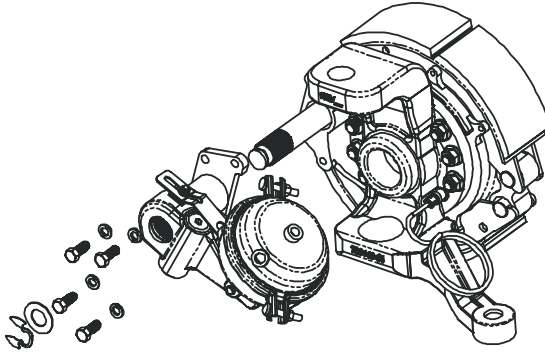

Figure 17 – Brake Components
4. Remove the slack adjuster, air brake chamber and air brake chamber bracket from the air brake spider (See Figure 17).